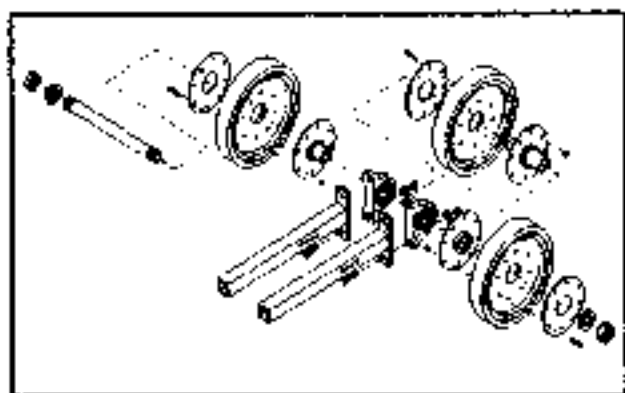

FIG 63
1) Assemble the tension axle as shown in Fig 63. Fasten the bearing blocks to the track tension tubes with the grease fittings pointing up. It is not necessary to tighten the large axle nuts securely at this time.